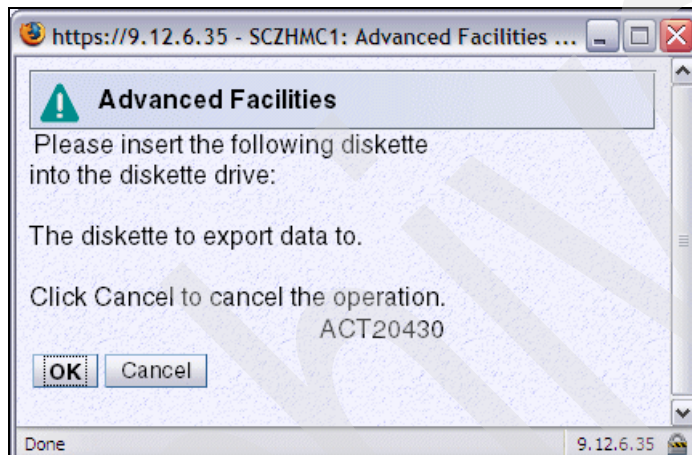

Figure 4-32 HMC - OSA Advanced Facilities (Export insert diskette)
9. The HMC prompts you to insert a diskette into the drive on the HMC that you are logged on to (Figure 4-32). Insert the diskette, then click **OK**.